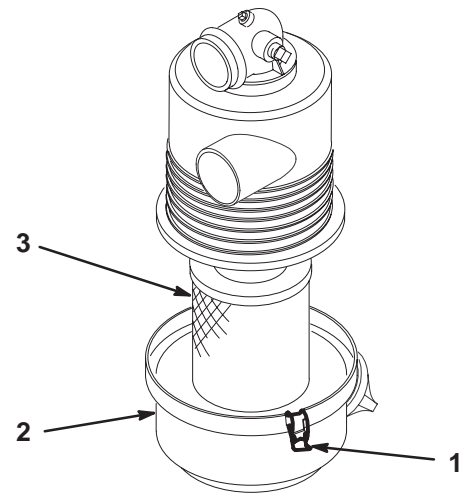

Figure 20
3. Release the latches securing the air cleaner cover to the air cleaner body. Separate the cover from the body. Clean the inside of the air cleaner cover (Fig. 20).
4. Gently slide the filter out of the air cleaner body to reduce the amount of dust dislodged (Fig. 20). Avoid knocking the filter against the air cleaner body.